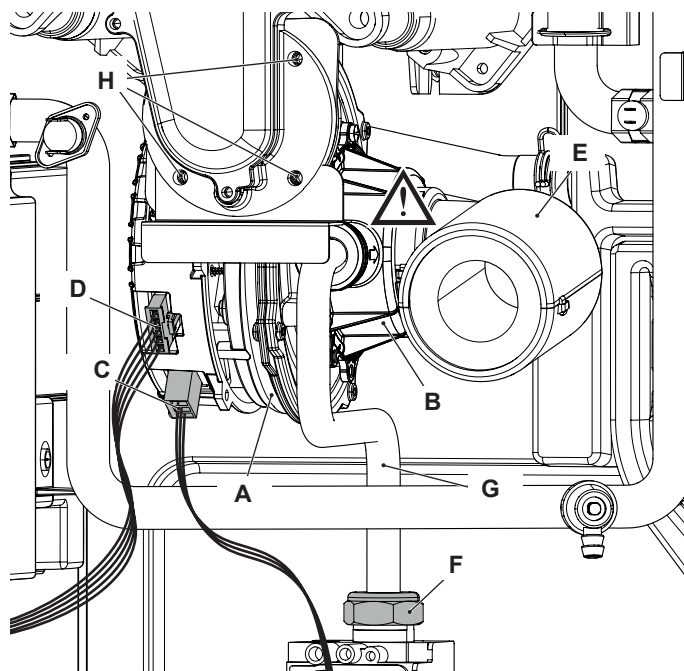

Figure 10.2
- 3 Disconnect the air manifold "E" (Figure 10.2).
Before reassembling ensure the fan gasket (Figure 10.2) is correctly mounted.